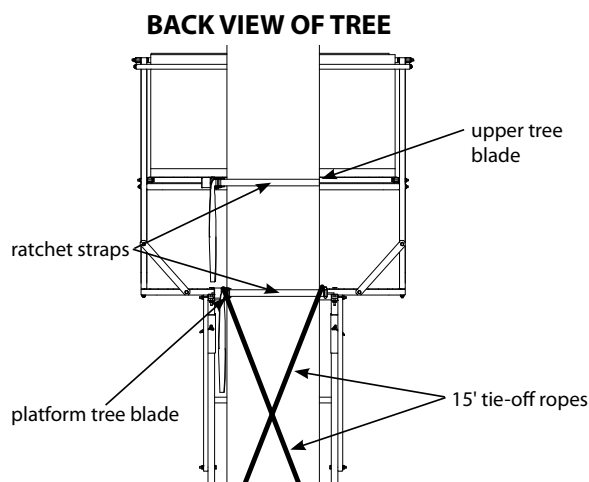

Figure 1a (RE633)
- a. Position (2) people at the platform end of the ladder, lift the platform end and continue uprighting by walking toward bottom end of ladder and moving hands along ladder legs. **Stand ladder up against chosen straight tree on dry, level ground.** Use caution when ladder comes over center against the tree.
- e. Wrap the previously attached 15' tie-off ropes hanging down from platform, around the back side of tree in opposite directions of each other. Pull the ropes snug and tie them to the ladder at the stabilizer bar height location. This ground level ladder-to-tree attachment will prevent the ladder from pulling away from the tree while ascending to top for final ratchet strap attachment. The same holds true when ladder removal is necessary. **SEE FIGURE 1a and 1b.**